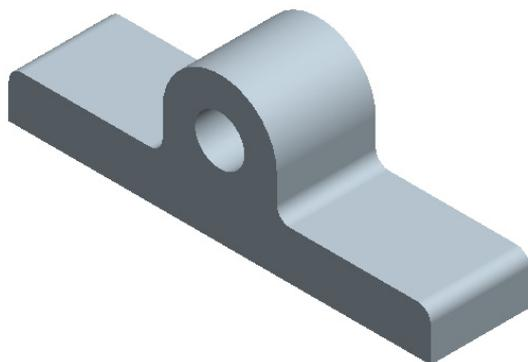
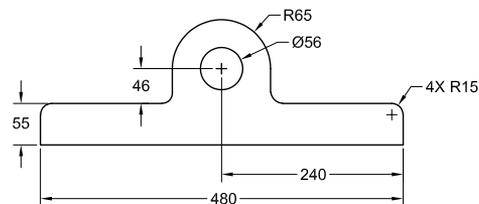

Figure 3-34 Model for Tutorial 3
Figure 3-35 Sketch of the model
In this tutorial, you will draw the sketch of the model shown in Figure 3-34. The sketch is shown in Figure 3-35. **(Expected time: 30 min)**
4. Modify all dimensions. Refer to Figure 3-35 for dimension values.